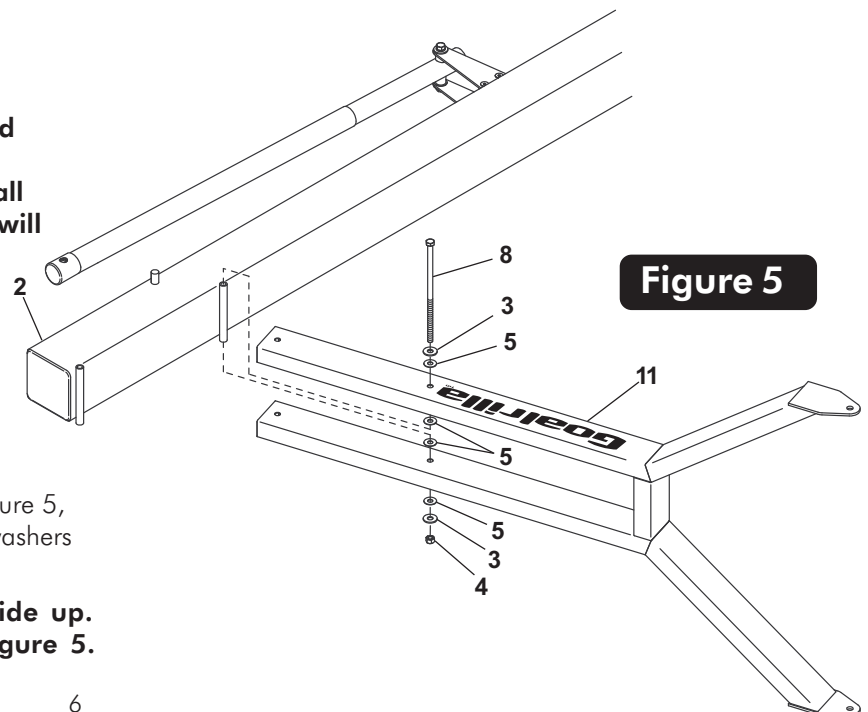

Figure 5
5. Attach lower arm (#11) to Pole (#2), as shown in Figure 5, using a bolt (#8), two flat washers (#3), four plastic washers (#5) and hex nut (#4).
Note: make sure "Goalrilla" lettering is right side up. **DO NOT** tighten bolt (#8) at this time. See Figure 5.